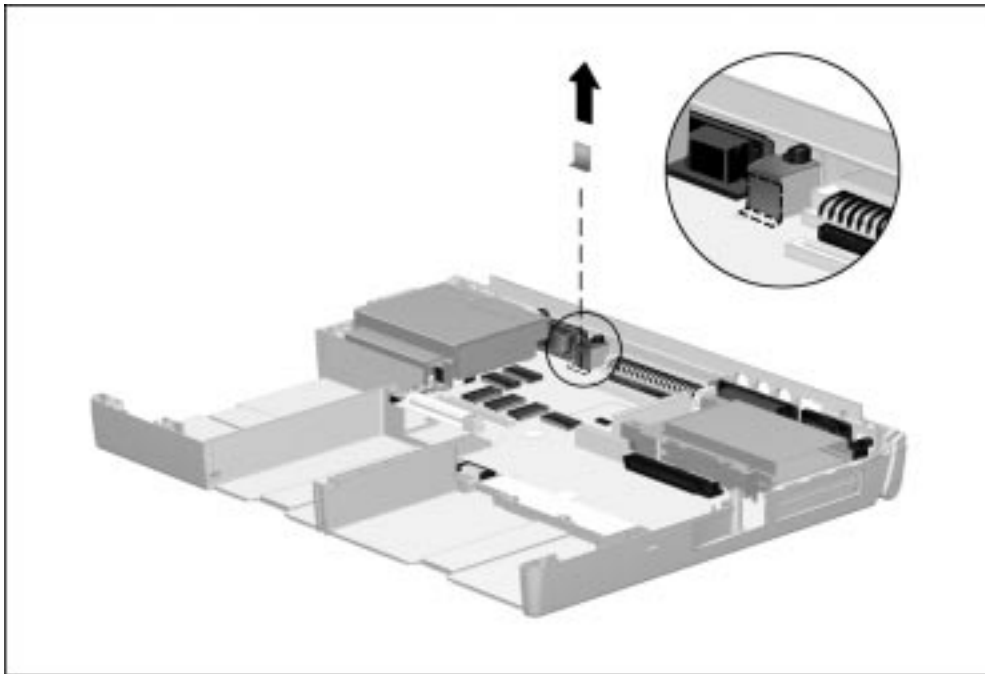

Figure 5-76. *Removing the Keyboard Connector Insulator*
15. The keyboard connector insulator is attached to the back of the keyboard connector (Figure 5-76). If a new insulator must be installed, remove the old insulator, remove the tape backing from the new insulator, and attach the new insulator to the back of the keyboard connector.